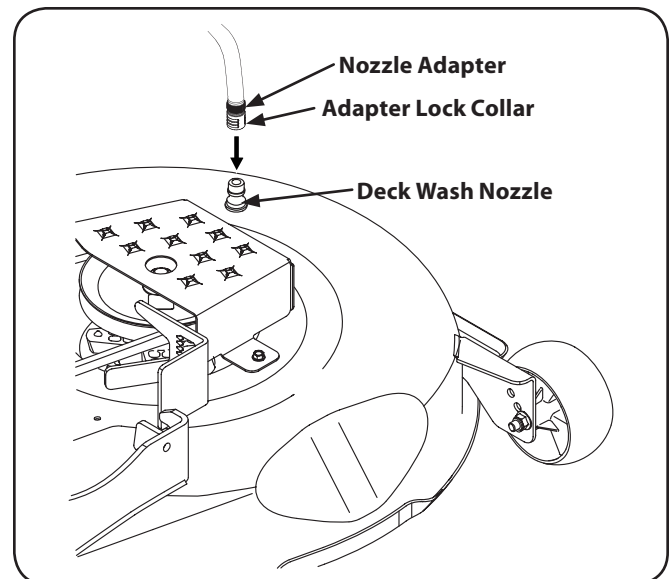

Figure 6-3
3. Attach the hose coupler to the water port on the left of your deck surface. See Fig. 6-3.